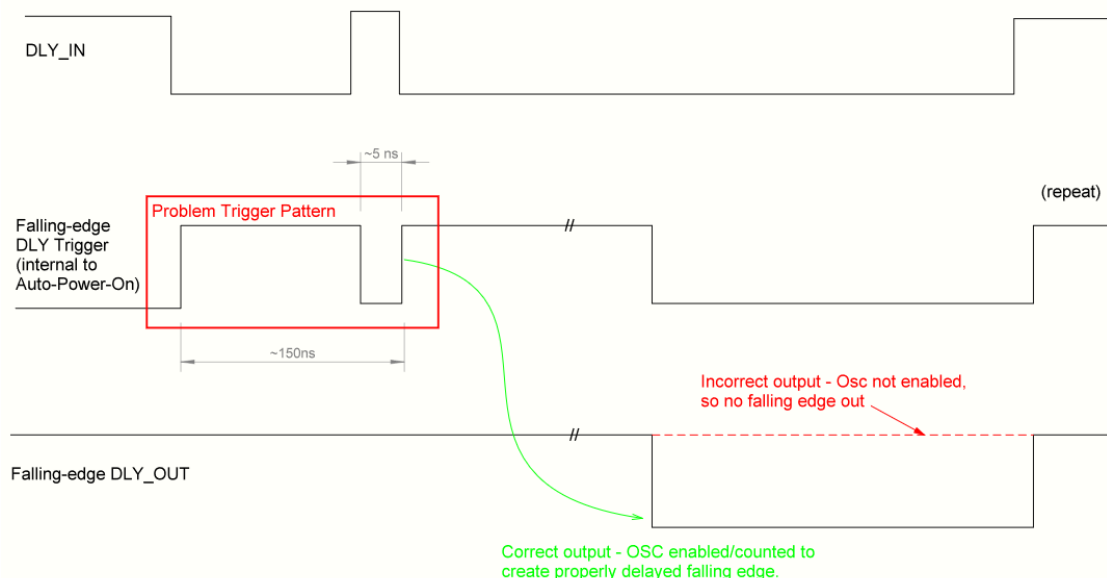

Figure 15. Problem Trigger Pattern
4. OR of OSC trigger signals from all DLYs clocked by same OSC together form a long+short glitch pattern with precise (ns) timings as shown in Figure 15. The trigger signal generation per DLY is detailed in section 3.7.3.
For this chip, the Auto Power On circuitry of the 25 kHz/2 MHz generators contains a circuit errata, which can potentially fail to power on the OSC for a specific pattern and timing of the OR of all related DLY trigger signals. The pattern is shown in Figure 15 (boxed in red) and consists of a relatively longer pulse (~145 ns) followed by a shorter (~5 ns) glitch of opposite polarity.